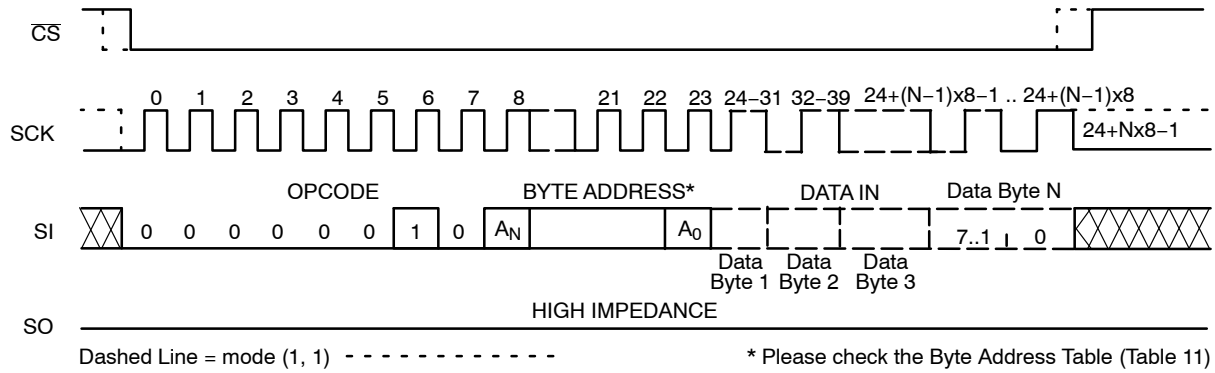

Figure 6. Page WRITE Timing
After sending the first data byte to the NV25xxx, the host may continue sending data, up to a total of 64 bytes, according to timing shown in Figure 6. After each data byte, the lower order address bits are automatically incremented, while the higher order address bits (page address) remain unchanged. If during this process the end of page is exceeded, then loading will “roll over” to the first byte in the page, thus possibly overwriting previously loaded data.
The additional 64-byte Identification Page (IP) can be written with user data using the same Write commands sequence as used for Page Write to the main memory array (Figure 6). **The IPL bit from the Status Register must be set (IPL = 1) using the WRSR instruction, before attempting to write to the IP.** The address bits [A15:A5] are Don't Care and the [A4:A0] bits define the byte address within the Identification Page. In addition, the Byte Address must point to a location outside the protected area defined by the BP1, BP0 bits from the Status Register. When the full memory array is write protected (BP1, BP0 = 1,1), the write instruction to the IP is not accepted and not executed. Also, the write to the IP is not accepted if the LIP bit from the Status Register is set to 1 (the page is locked in Read-only mode).